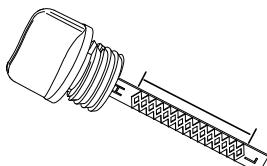

Figure 4-2. Safe Operating Range
4. Screw dipstick into filler neck. Remove dipstick and verify oil level is within safe operating range. See *Figure 4-2*.